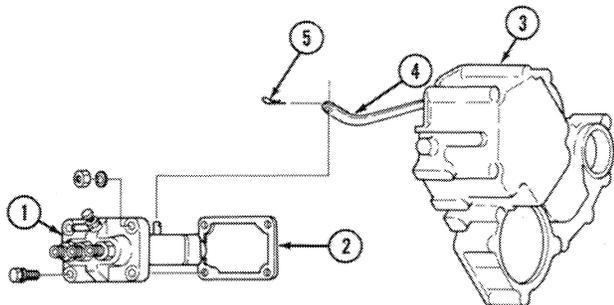

Figure 39
- Loosen the injection pump mounting bolts and nuts. Raise the injection pump enough to disconnect the snap pin and separate the governor link from the control rack, Figure 39.